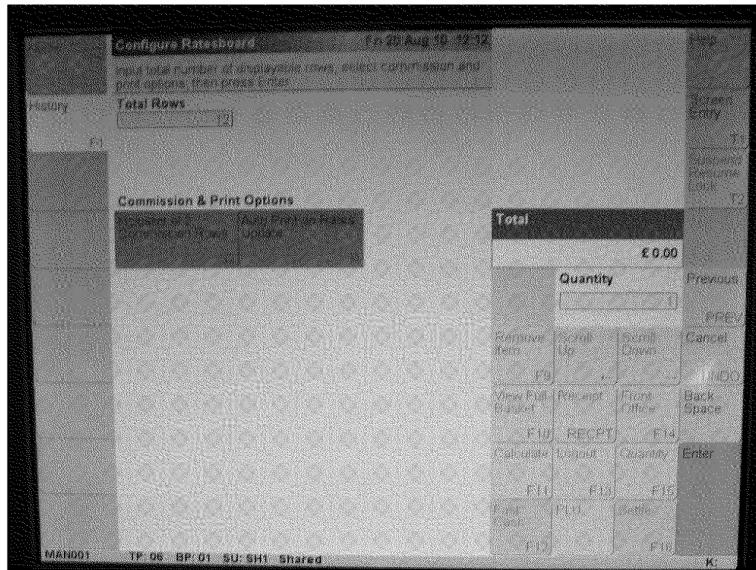

Figure 4
- 1) The Branch Manager should touch the 'Configure Rate Board" icon which will prompt the first of the Rate Board configuration screens. The Branch Manager will first be asked to input the number of rows on the Rate Board, see figure 4.
- 2) The screen will display a defaulted figure of 12 in the 'Number of Rows' field, as shown above in 4. As no Rate Board is connected to this counter, the Branch Manager should disregard the question and simply select the icon (or press enter on the keyboard). The Branch Manager will then be asked whether the last 2 rows should be reserved as commission lines, see figure 4 above
- 3) As no Rate Board is connected to this counter, the Branch Manager should disregard this question and simply select 'Yes'. The Branch Manager will then be asked whether to automatically print a report on rates update, figure 4 above
Upon passing the final Currency Code, HNGX will navigate back to the engineer screen, see figure 4 above